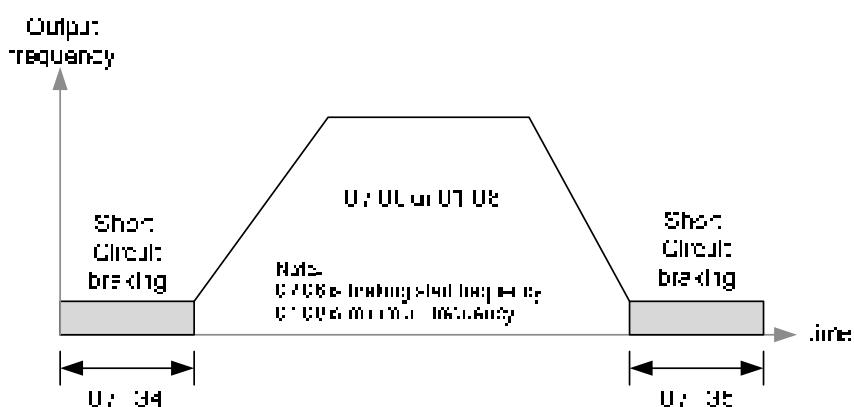

Figure 4.3.57b PMSLV short-circuit braking
(2) When control mode is PMSLV (00-00=5) :
- Please refer fig 4.3.57b for short-circuit braking function.